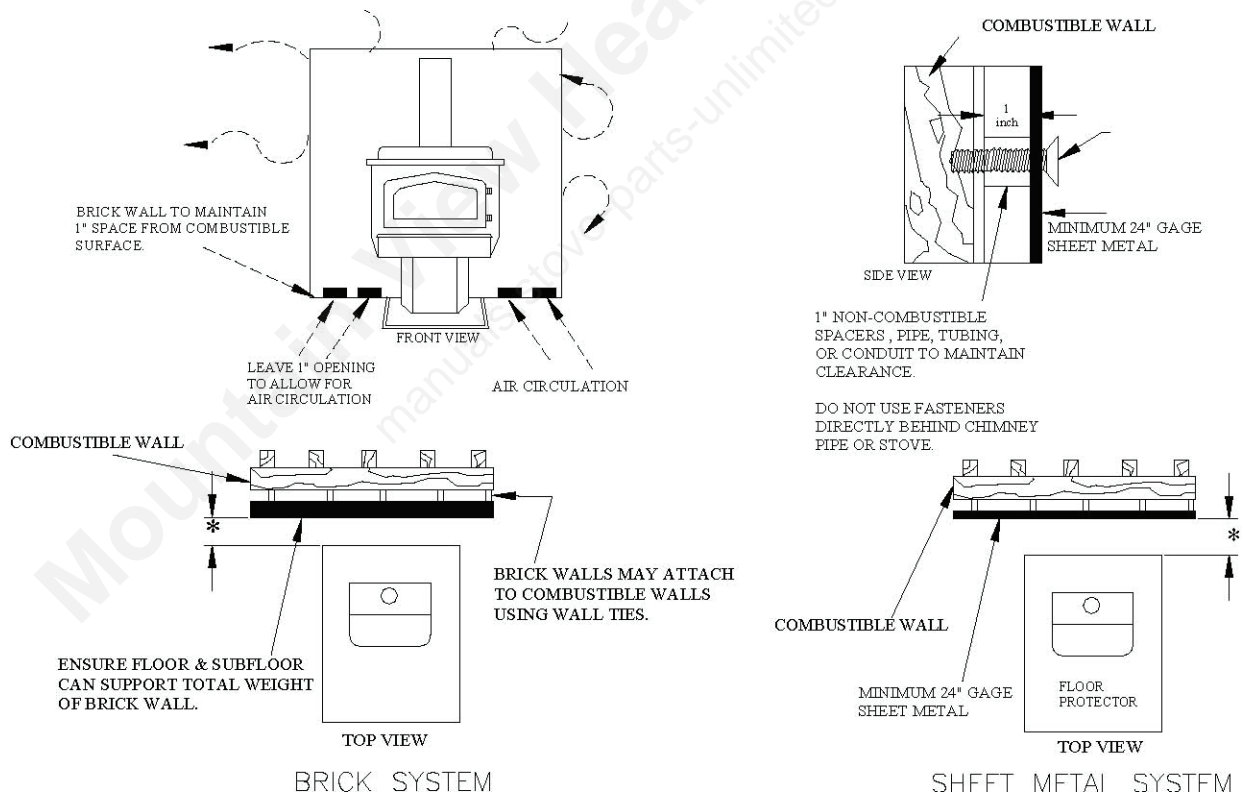

FIGURE 2: *12 RULE CLEARANCE SYSTEMS
2. Essentially, the **12 RULE** states that no clearance can ever be less than twelve inches (12" or 300mm) from a catalytic stove to any **COMBUSTIBLE WALL** regardless of the additional type of protection provided for a specific combustable wall. Refer to FIGURE 2 for 12 RULE examples.